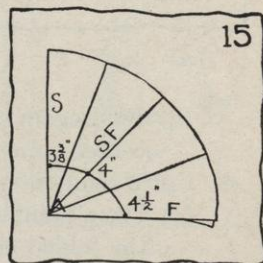

FIG. 15.
- (6) Connect the three pencil marks that you made with a gradual curved line (see Figure 15). This will be the temporary headsize. **Do not cut on this line.**